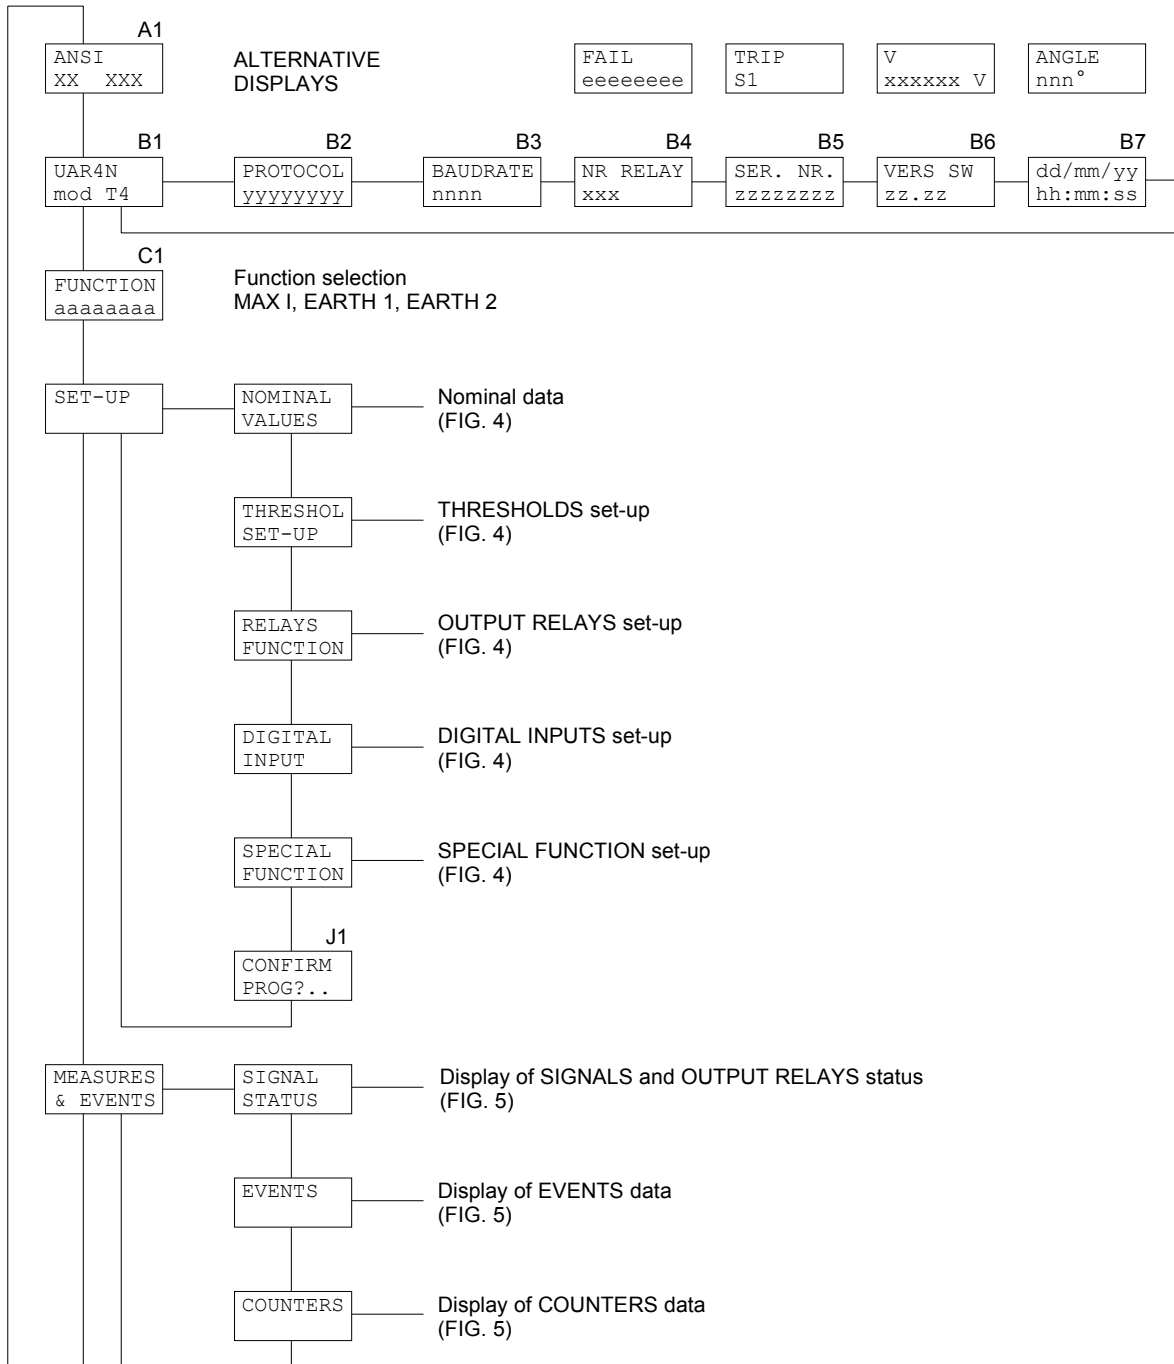

Figure 3
- the structure of the visualizations and their contents are showed in Fig. 3, 4 and 5.
The programmable parameters are showed in Figures 3, 4 and 5 at the following references:
- 5) **CONFIRM** the new protection relay set-up at the visualization CONFIRM PROG? (Fig. 3, ref. J1) within 5 minutes depressing the push-buttons [ENTER] and  up to visualize **YES** and [ENTER] again to confirm.
- display on STANDARD MODE (Fig. 3, ref. A1 – par. 5.1)
The contents and the structure of the displayed messages are shown in figures 3, 4 and 5; the references A1, B1, B2 etc. identify specific displayed messages in the figures.
A1 - STANDARD DISPLAY (fig. 3)
5.3 Address and time (fig. 3)
5.4 Function selection (fig. 3)